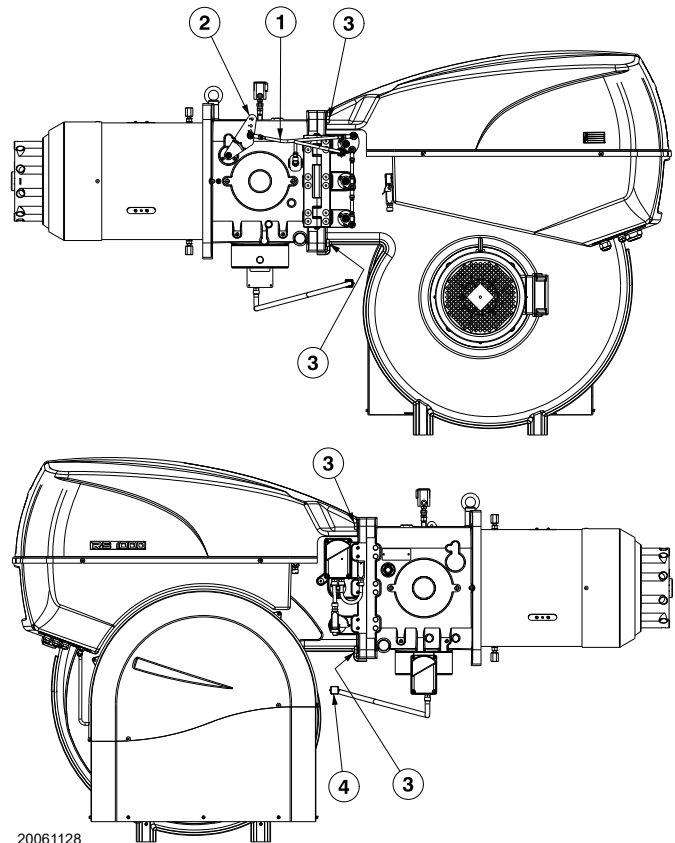

Fig. 36
- Remove the tie-rod 1)(Fig. 36) of the head movement lever, undoing the nut 2).